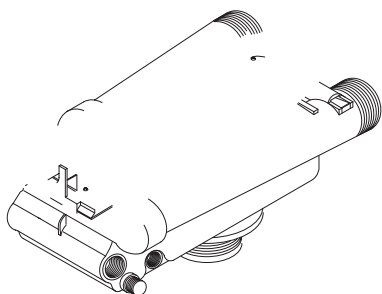

Figure 5.1
4. Using a screwdriver, remove injector screen and injector cap (Figure 5.1).
4. Using a needle-nose pliers, remove the turbine wheel from the outlet housing. Grasp one of the four vanes of the outer gland and pull straight out to remove turbine assembly from the outlet of the valve (Figure 5.1).